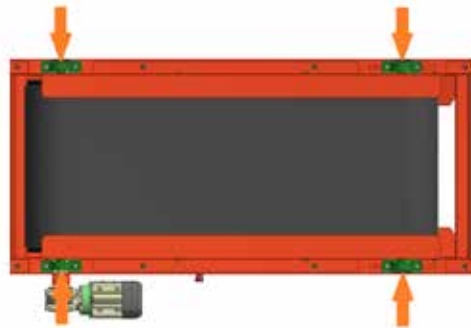

FIGURE 9
- There are 4 bearings per separator as indicated in Figure 9.